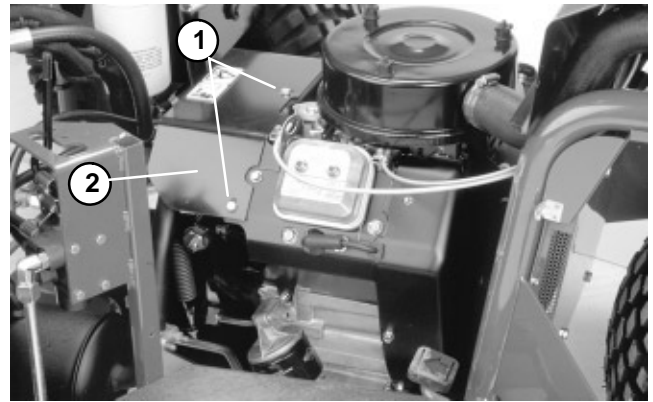

Figure 29
8. Remove three cap screws and star washers securing the muffler shield, R-clamp, and fuel hose to the engine (Fig. 29).
5. Secure R-clamp and muffler shield to the engine with three cap screws and star washers (Fig. 29).